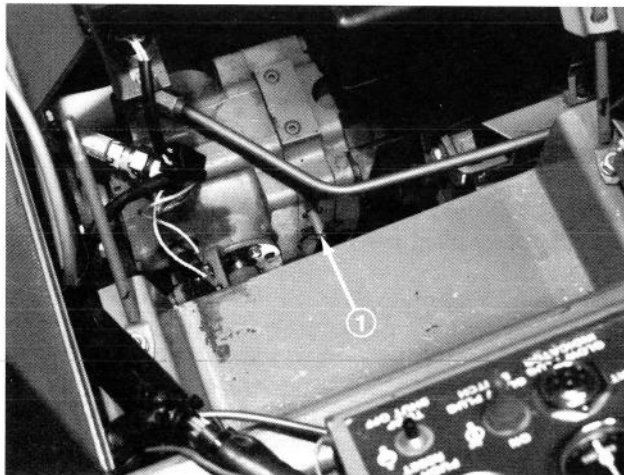

Figure 28
1. Reach under traction unit and rotate by-pass valve (Fig. 28) 1/2 to 1 turn counterclockwise. Opening the valve opens an internal passage in the transmission, thereby by-passing transmission oil. Because fluid is by-passed, traction unit can be moved without damaging the transmission.